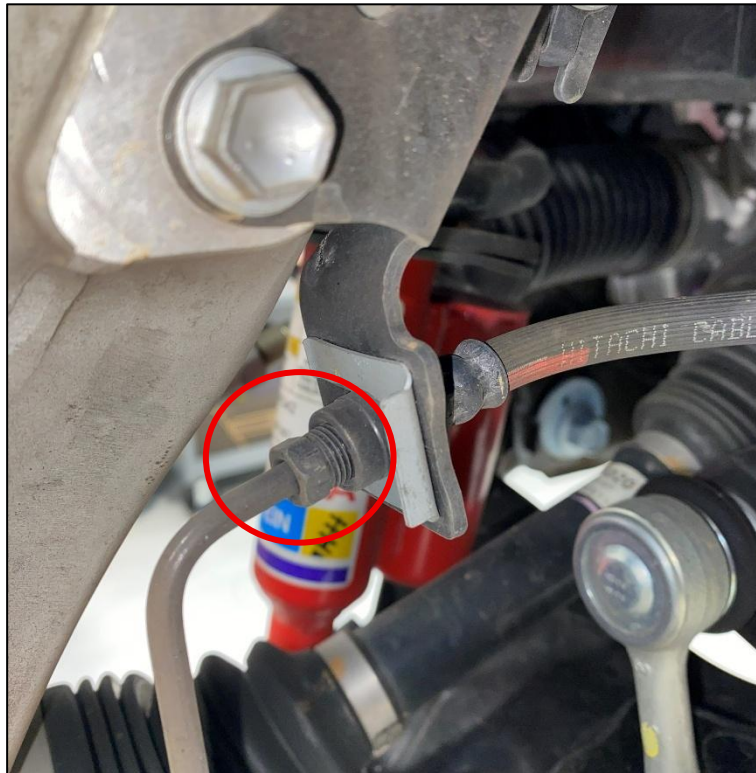

Figure 2
2. Disconnect the OE Soft Brake Line from the Lower OE Hard Line by loosening the nut on the Hard Line. If the line twists without loosening, a wrench may be needed to hold the Soft Brake Line in place. Use of a Flared Wrench is HIGHLY recommended to prevent rounding of the nut on the Hard Line. Brake Fluid will leak out, so prepare a bucket and rags. Clean any spilled Brake Fluid on painted surfaces immediately to prevent damage. *Figure 2.*